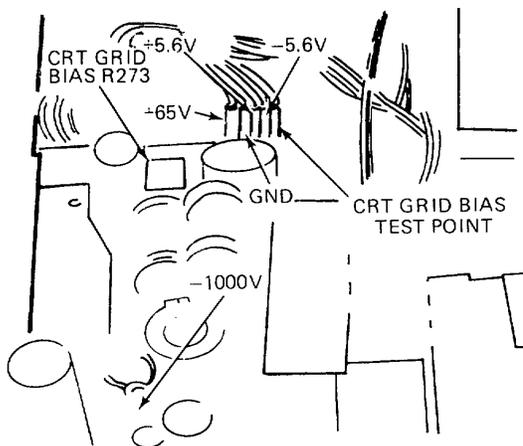

Figure 4-1. Location of power supply test points and CRT Grid Bias adjustment.
- a. Using the DC voltmeter, measure the DC level of the power supplies given in Table 4-2. Observe proper meter polarity. See Fig. 4-1 for test point locations.
- 2 of plug P3 (negative meter lead to pin 2) on the Power Supply Board. See Fig. 4-1.
- d. ADJUST-CRT Grid Bias, R273 (see Fig. 4-1) for a meter reading of +1.9 volts.